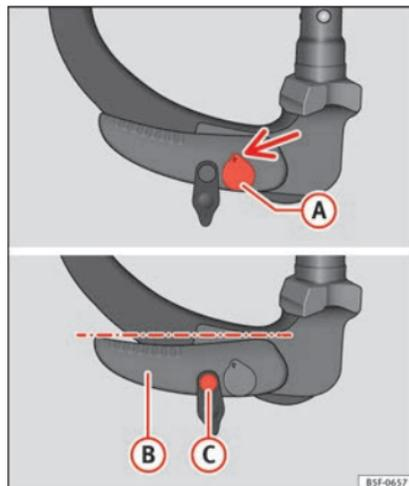

Fig. 235 Standby position: Position of the lever and the release bolt.
- Key ① » Fig. 235 is in the released position (the part of the key with the holes is facing upwards).
- Lever ② » Fig. 235 is in the bottom position.
- The release bolt ③ » Fig. 235 can be moved.